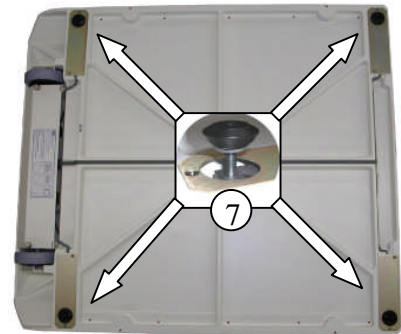

Figure 3: Leveling Feet Installation
STEP 8: (Figure 3) Attach Leveling Feet (7) (separate package provided) to each of the four (4) corners of the Base Assembly. Screw the leveling feet approximately 1/2 inch into the hole of each of the four (4) transducer cells. **Note:** Leveling feet must be in place to operate the scale properly.